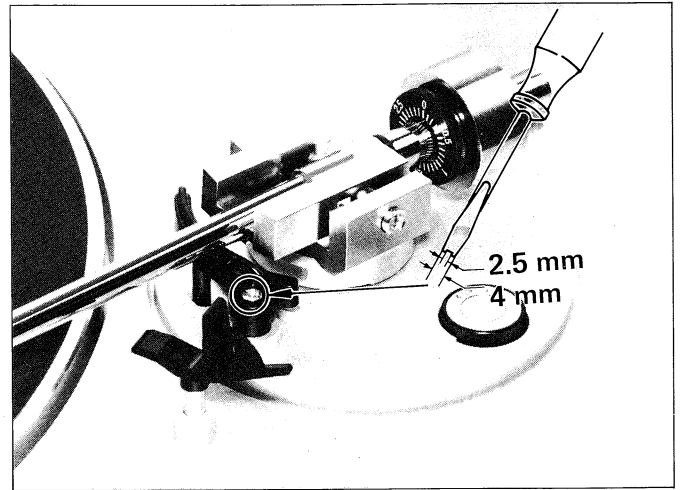

Figure 9-1
3. Turn the adjusting nut of the tonearm lifter in either direction by using a screwdriver, so that there is a distance of about 4 mm between the stylus top and record surface. The clockwise direction will shorten the distance while the counterclockwise direction will lengthen it. See Figure 9-1.